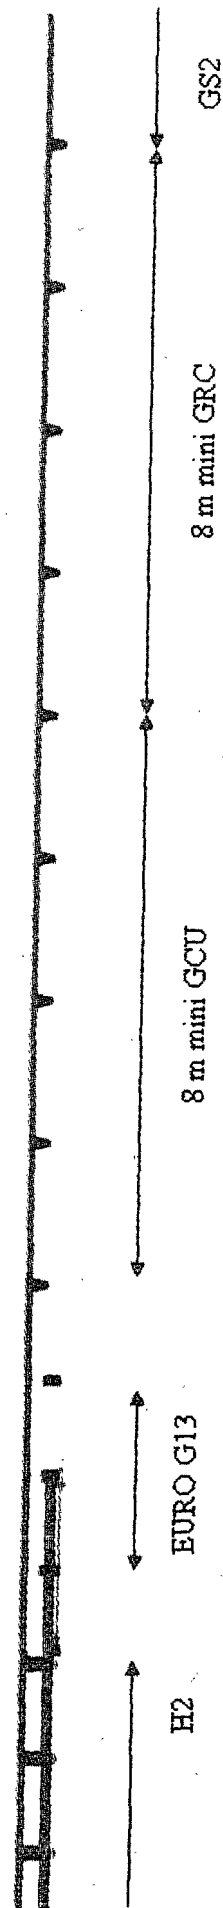

Figure 17 - Raccordement H2-GS solution 2
- Figure 17. - Raccordement Systech H2-GS - solution 2.